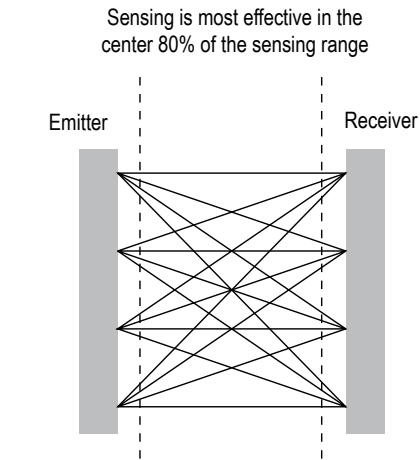

Figure 1. LX Series optical crosshatch pattern
1. The best sensing resolution occurs within the center 80% of the sensing range (*Figure 1* on page 2).